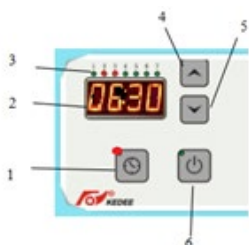

Fig. 5-5
- After finishing the unit On/Off timer setting, click ⌚ Key (1) to successfully save the settings, which will be indicated by two short beeping sounds, and Display (2) shows the timer settings (Fig. 5-5);
Click ⌚ Key (1) (the signal light of the key turns on) to view the preset On/Off time (Fig. 5-5)